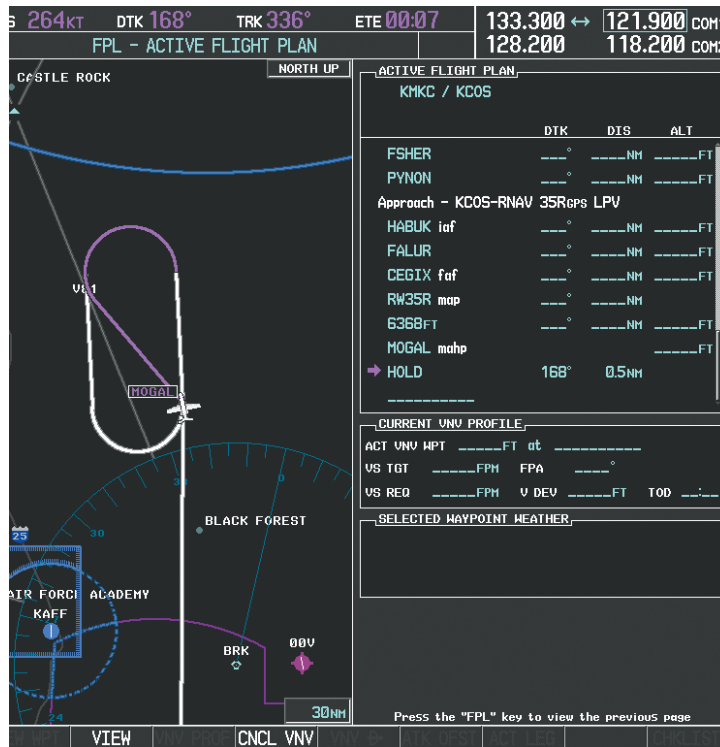

Figure 5-145 Establishing the Holding Pattern
26) The aircraft continues climbing to "AT or ABOVE" 10,000 feet at MOGAL. A holding pattern is established at the MAHP (MOGAL) as shown in Figure 5-145.